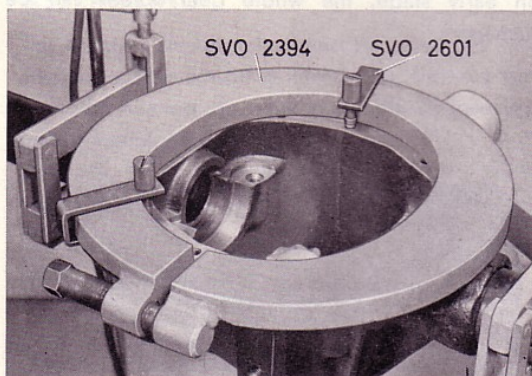

Fig. 29. Expanding drive pinion carrier
6. Fit tool SVO 2394 in the holes in the drive pinion carrier as shown in Fig. 29. Secure the tool with holders SVO 2601. Expand the tool until it fastens exactly in the holes on the carrier. Then tension the screw a further 3—3.5 turns. Lift out the differential carrier with crown wheel. Tool SVO 2337 can be used for this purpose.